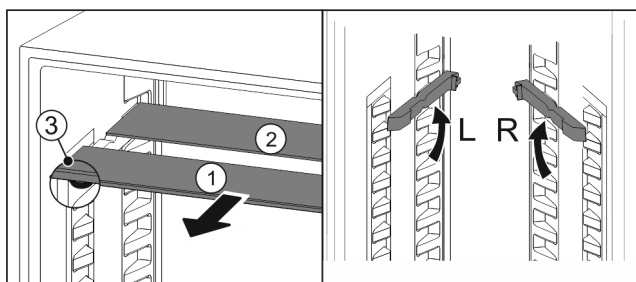

Fig. 25
- Pull the glass panels out Fig. 25 (1) from the front, one at a time.
- ▷ The glass panel Fig. 25 (1) with the trim strip is at the front.
- ▷ The stops Fig. 25 (3) point downward.